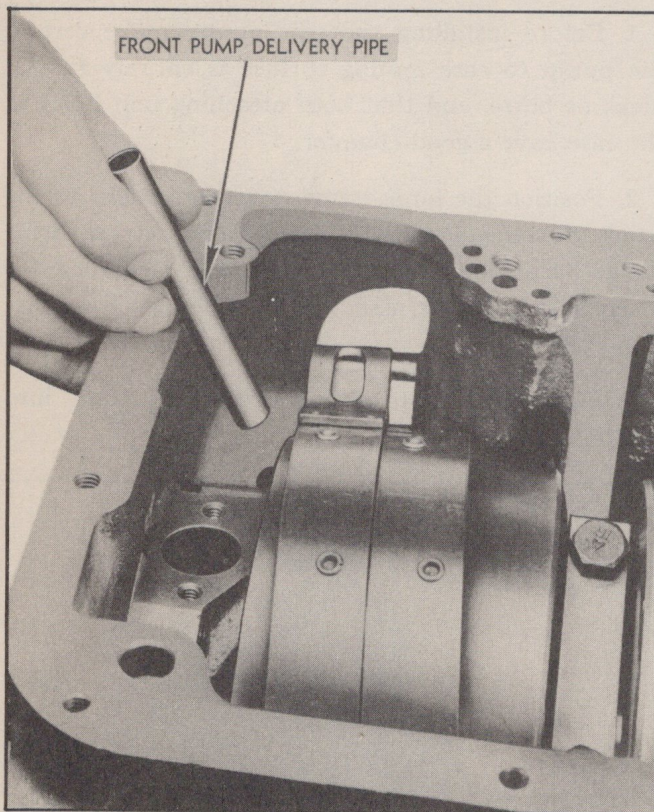

Fig. 302—Installing Front Pump Delivery Pipe
1. Install front pump delivery pipe in front pump body (Fig. 302).